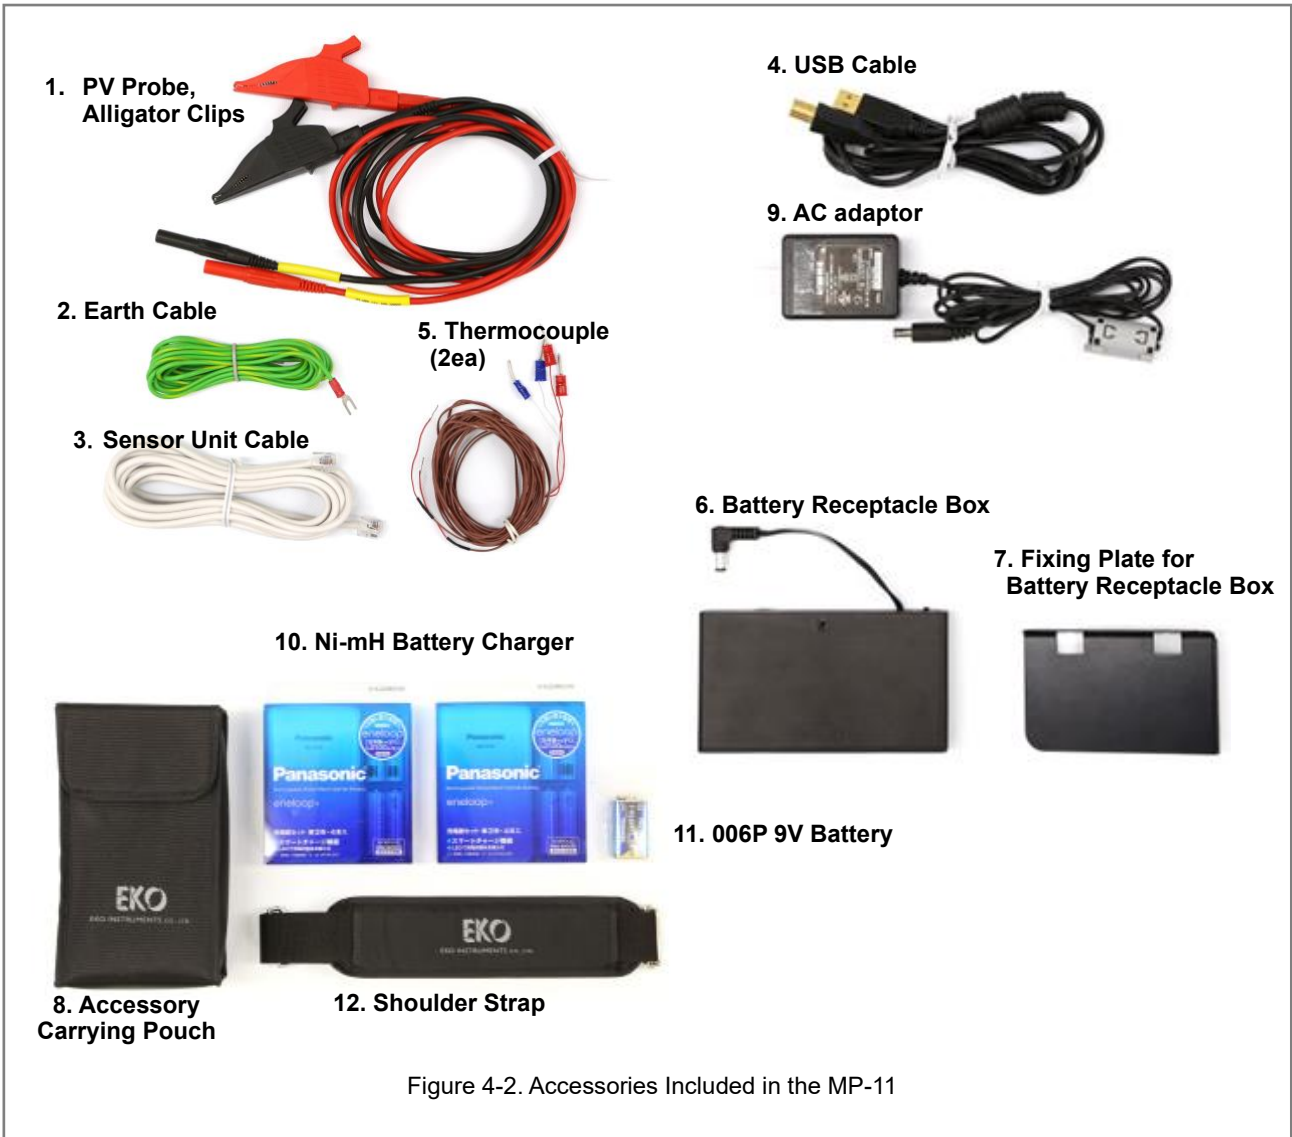

Figure 4-2. Accessories Included in the MP-11
*) Item No. shows the number of each item in Figure 4-2.